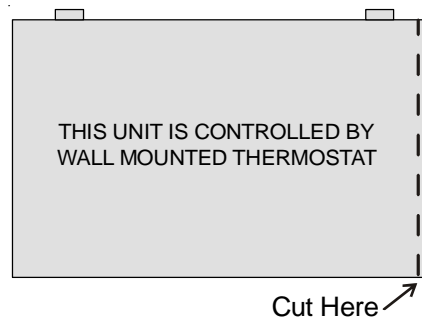

Figure 10
9. 5/16" of sheet metal will need to be removed from the right side of the Remote Escutcheon. Mark the back-side of the escutcheon with a straight edge and use a pair of tin snips to remove 5/16" of the right edge of material. (See Figure 10.)